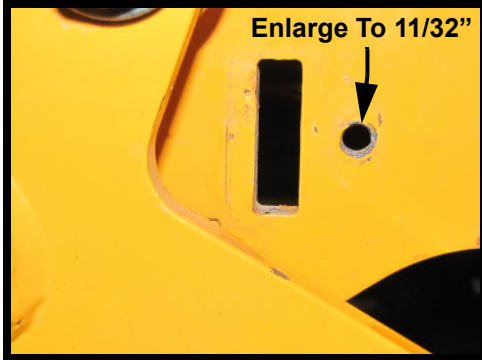

FIGURE 3
7. Enlarge the mounting hole (Figure 3) in the frame with a 11/32" drill bit and drill.